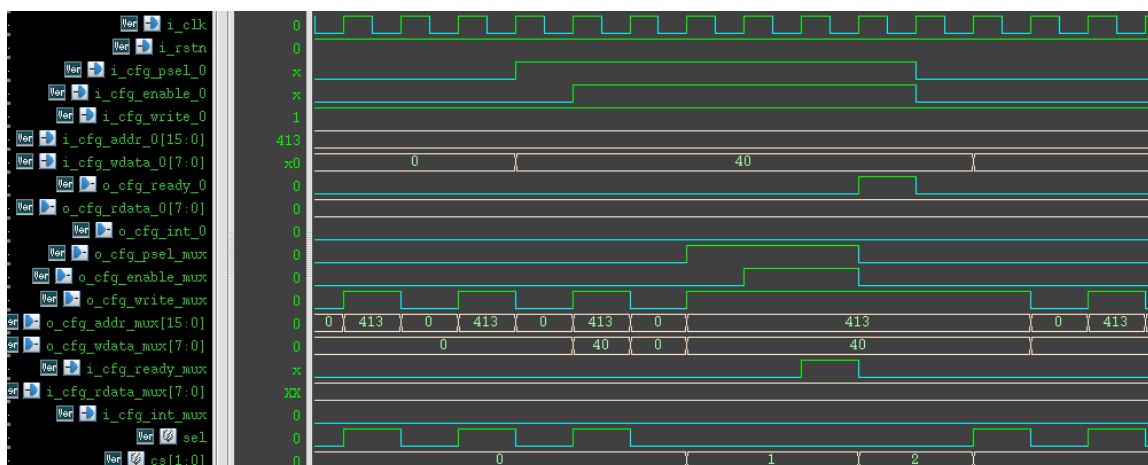

Figure 2-9 APB Arbiter Internal Logical Timing Diagram
Taking the first bus group access as an example, the simulation timing waveform is shown in Figure 2-9. When the state machine is in the IDLE state, the sel signal toggles every clock cycle. For the IDLE state (0), when both the i\_cfg\_psel\_0 signal and the i\_cfg\_enable\_0 signal of the first bus group are detected at 1, and the sel signal is 0, then the state machine enters the BUSY state (1), strobes the first (number 0) APB bus group, and allows access to the internal registers of HSSTLP\_3GSDI. After the APB interface of HSSTLP\_3GSDI returns the i\_cfg\_rdata\_mux signal, the state machine enters the WAIT state (2). In the WAIT state, the IDLE state won't be resumed until the p\_cfg\_psel\_0 signal of the first bus group goes low.